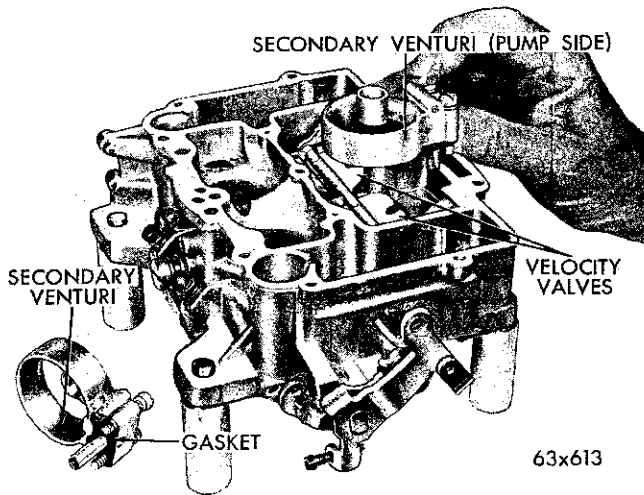

Fig. 9—Removing the Secondary Venturi
venturi to the main body. (These venturi are not interchangeable side for side, and it is suggested that the pump side venturi be marked for identification.) Remove the venturi, as shown in Figure 9. Discard the gaskets. (The pump side venturi is numbered 678. The opposite one, numbered 679.)
(7) Place new secondary venturi gaskets in position, then install the secondary venturi. (Refer to Fig. 9.) Install screws and tighten securely. Be sure each is located in its original place.